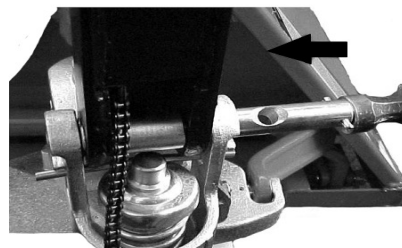

Fig. 6: Axle assembling
- Insert the tiller arm(1) into the pump piston, then use a hammer to insert the axle with hole into the hydraulic pump and tiller arm from the right to the left (Fig. 6).